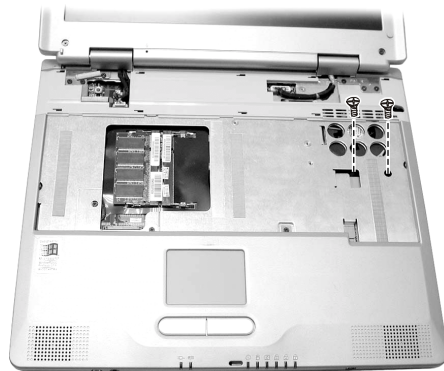

Figure 2-13 Remove two screws
2. Remove the two screws fastening the housing. (Figure 2-13)